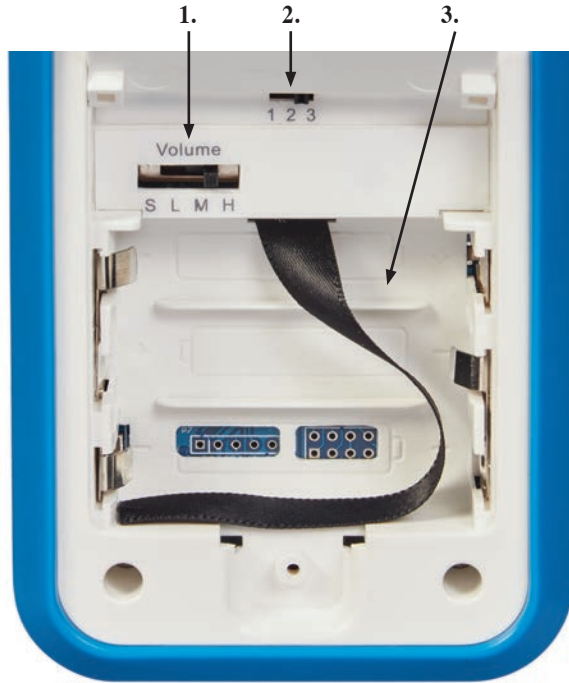

Figure 3
- Hall Alert requires three (3) AA batteries to operate (sold separately, p. 4). Optional AC Adapter can be used in place of batteries (sold separately, please contact your AliMed representative for ordering information).
- Place batteries in the battery compartments according to configuration shown (Fig. 3). All LEDs on the unit will blink three (3) times accompanied by a beep.
- Set preferences for Volume (S, L, M, H) and Tone by moving the appropriate switch left or right (Fig. 3). *Note: Volume and Tone preferences for Hall Alert can differ from preferences selected for Alarm Base.*